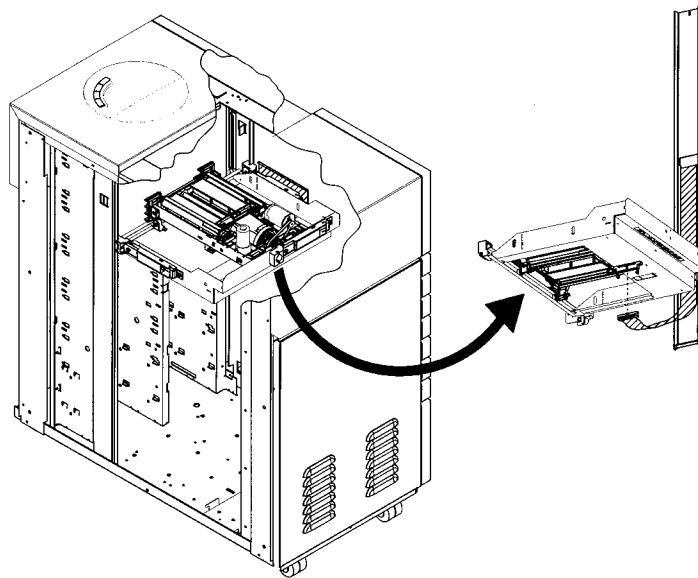

Figure 33: Disconnecting the Vertical Umbilical Cable From the Translate Frame
5. Disconnect the umbilical cable on the underside of the translate frame (see Figure 33).